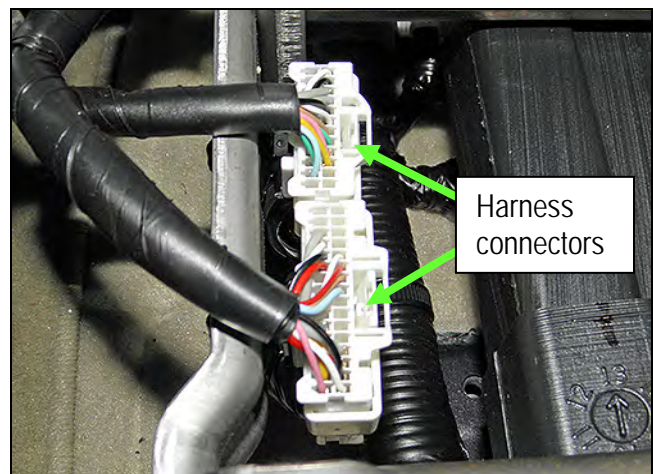

Figure 38B
21. Unplug the two harness connectors that were unclipped in step 22B and shown in Figure 38B.